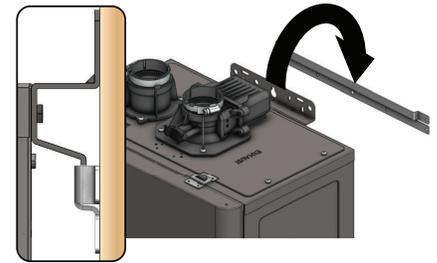

Figure 6 - Use Mounting Screws to Secure Water Heater to Bracket
- 2 Hang the heater on the mounting bracket (Figure 6).